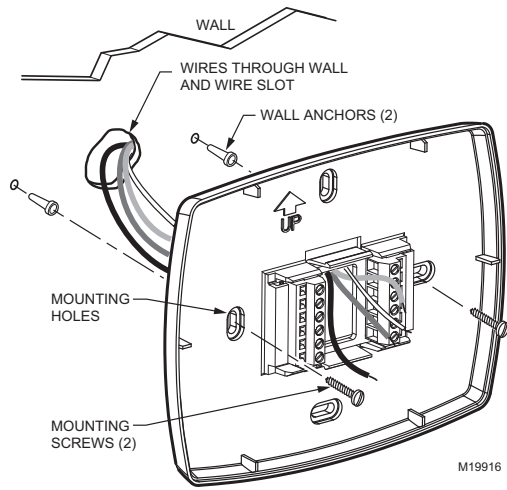

Fig. 6. Mounting wallplate.
- 4. Position the wallplate over the holes, pulling wires through the wiring opening. See Fig. 6.